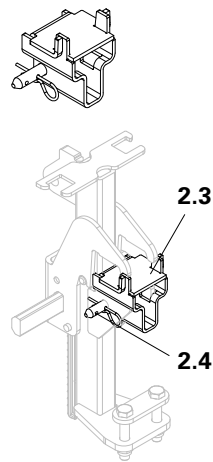

Fig. A4.04a
1. Fix the Adapter (2.3) to the Connector for Platform MXP by means of bolts (2.4). (Fig. A4.04a)